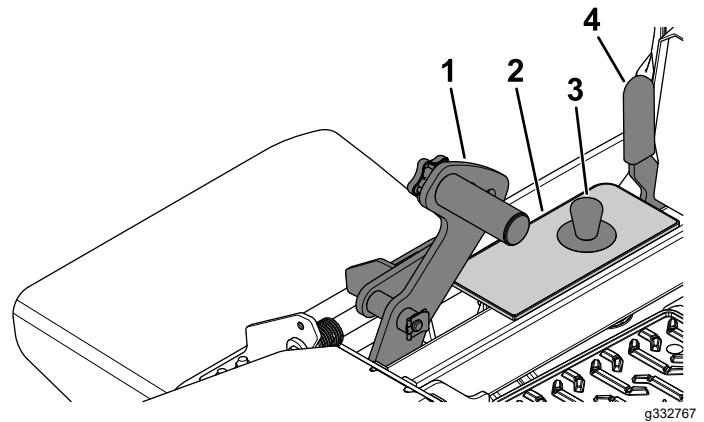

Figure 31
1. Push the deck-lift pedal fully forward to lock the mower deck in the TRANSPORT position (also the 140 mm/5-1/2 inches cutting height position) as shown in Figure 31.
2. To adjust, remove the pin from the height-of-cut bracket (Figure 31).
3. Select a hole in the height-of-cut bracket corresponding to the height of cut desired, and insert the pin (Figure 31).